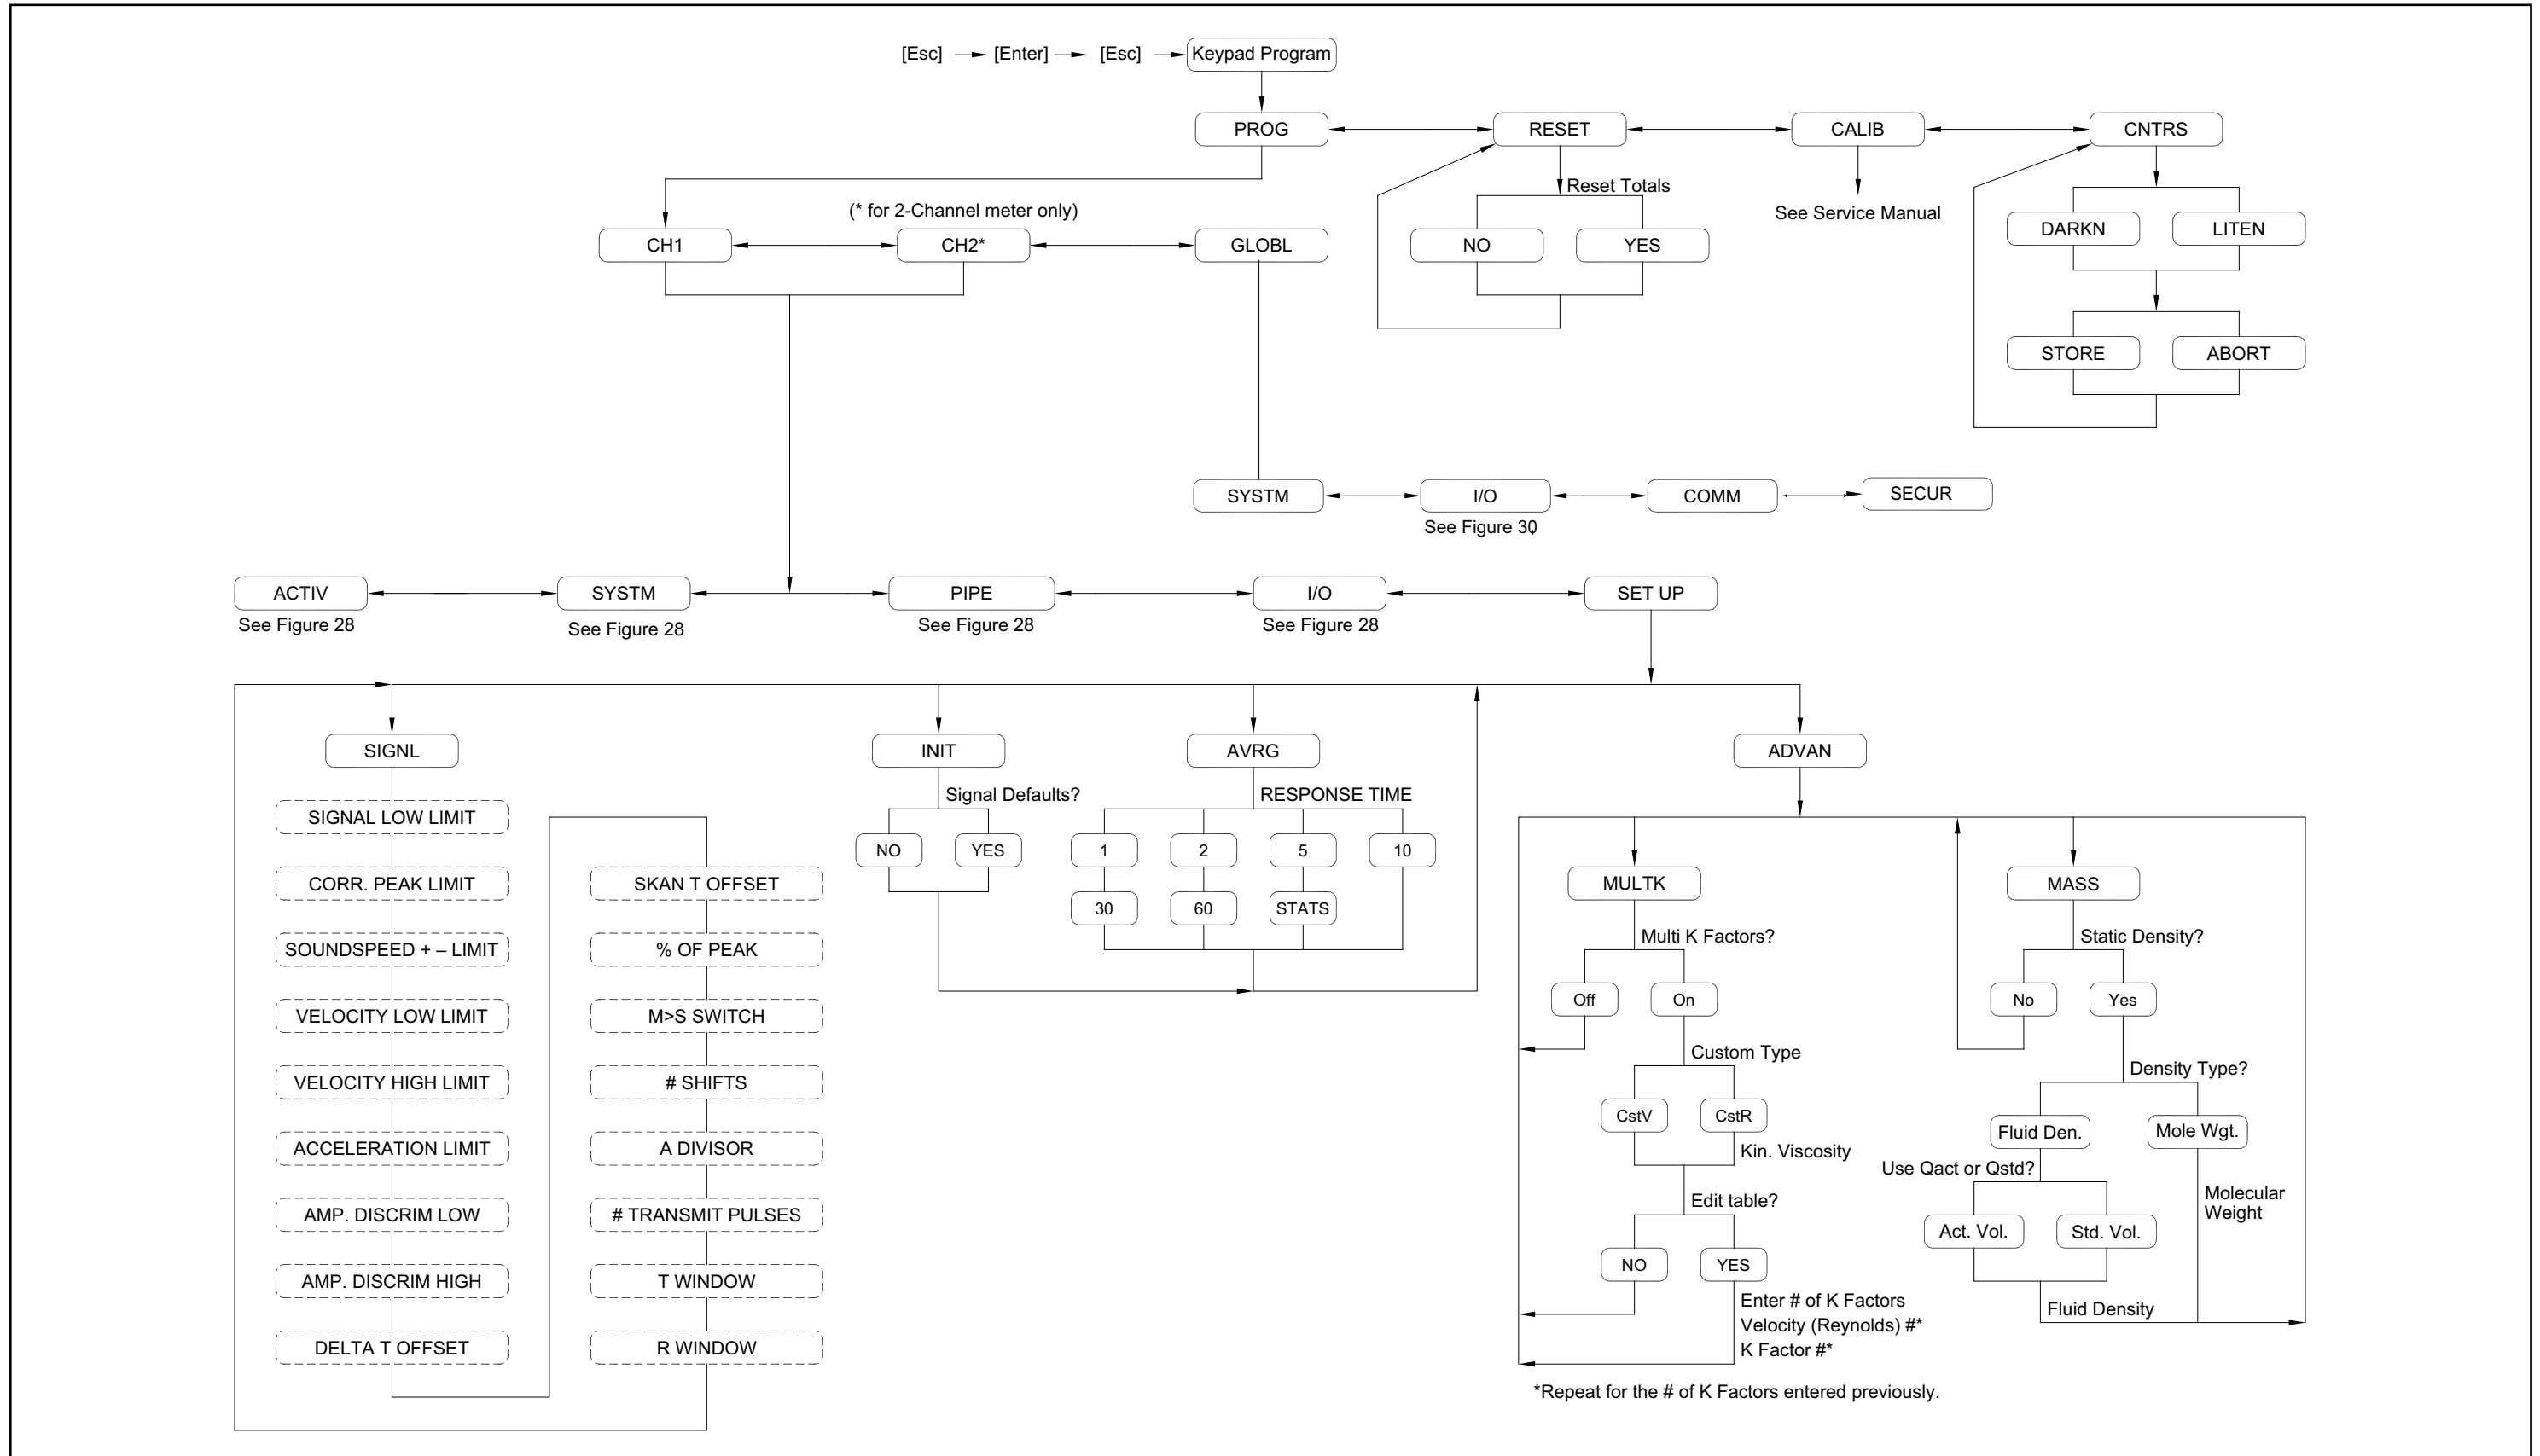

Figure 29: PROG > CHX > SETUP Menu
- Figure 29, “PROG > CHx > SETUP Menu,” on page 62